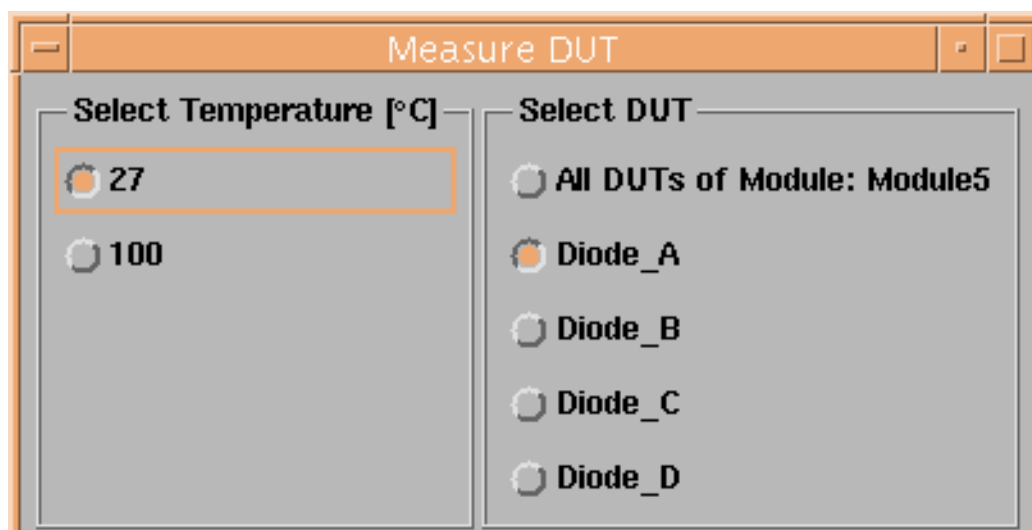

Figure 1-39. Measurement prompt
- To start measurement of the devices: Click **Measure** and select the DUT(s) to be measured on the form that opens (Figure 1-39). You can select measurement temperature (if there is a temperature other than TNOM defined in the temperature setup form) as well as a specific DUT. Start measurement with the **Measure** button on that form. If measuring at elevated temperatures, be sure to wait until your devices are heated or cooled down to the desired temperature.